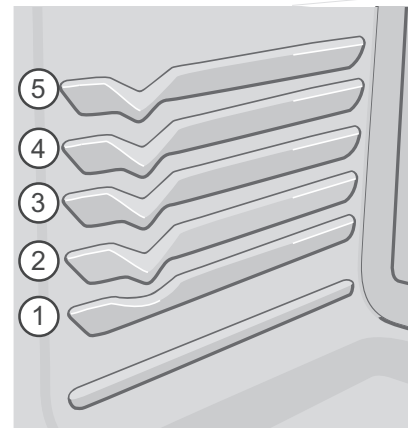

Figure 15: Rack positions
- For best results when baking cakes using two oven racks, place racks in positions 2 and 4 (See Figure 15).